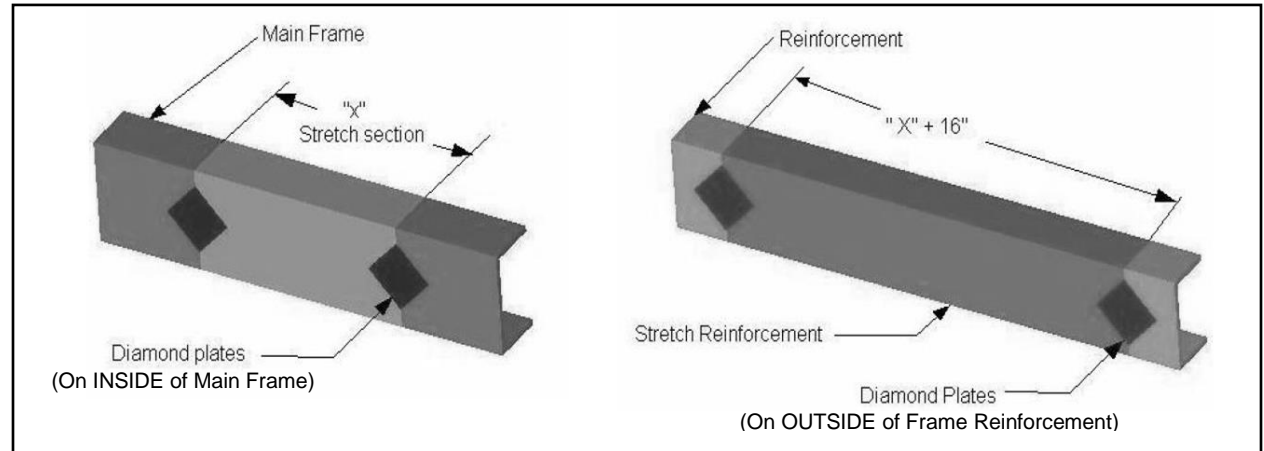

Figure 35 – Added “Fishplates” to Frame and Frame Reinforcement
- Weld a “fishplate” made from the same strength and thickness material as the reinforcement over the exposed vertical welds on the outside of the reinforcement. Weld a “fishplate” made from the same strength and thickness material as the main frame over the exposed vertical welds on the inside of the main frame. An appropriately sized diamond shape is recommended. (see Figure 35)